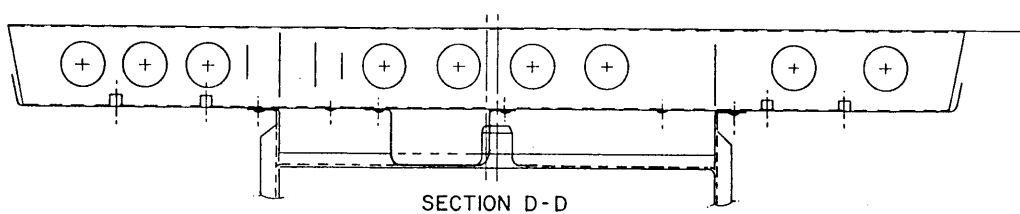

Figure 2 New Side Support Installation Detail
- E. Refer to MM Chap 24-00-00, Figure 2. Unbolt external power relay and battery relay from pod forward bulkhead. Unscrew battery panel from pod forward bulkhead. Carefully tape back so that they will be clear of the battery tray re-work area. Retain mounting hardware.
- G. Refer to Figures 2 and 4. Bench assemble Tie Rod Support Channel PN 1C/N-11-619 and Tie Rod Top Hats PN 1D/N-11-619 to Battery Tray PN 1A/N-11-1327.
- (1) Mark the new, lower and upper tie plate slots as indicated in Figures 2, 3 and 4. Drill and manufacture the four new tie plate slots.